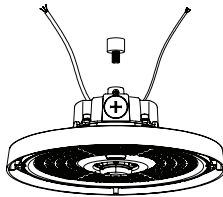

FIGURE 8
- Step 1. After installing the 1/2" adapter, unscrew the nuts for the 1/2" NPT stem. (see Figure 8).